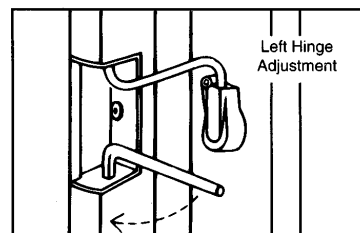
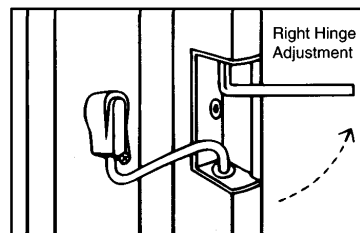

FIGURE 7
FIGURE 8
5. For left hand door adjustment, **(see Figure 7)**. For right hand door adjustment, see Figure 8.